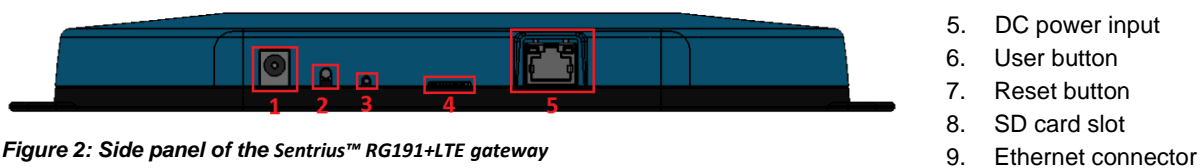

Figure 2: Side panel of the Sentrius™ RG191+LTE gateway
1. Depress and hold the user button (see #2 in Figure 2) for seven seconds.